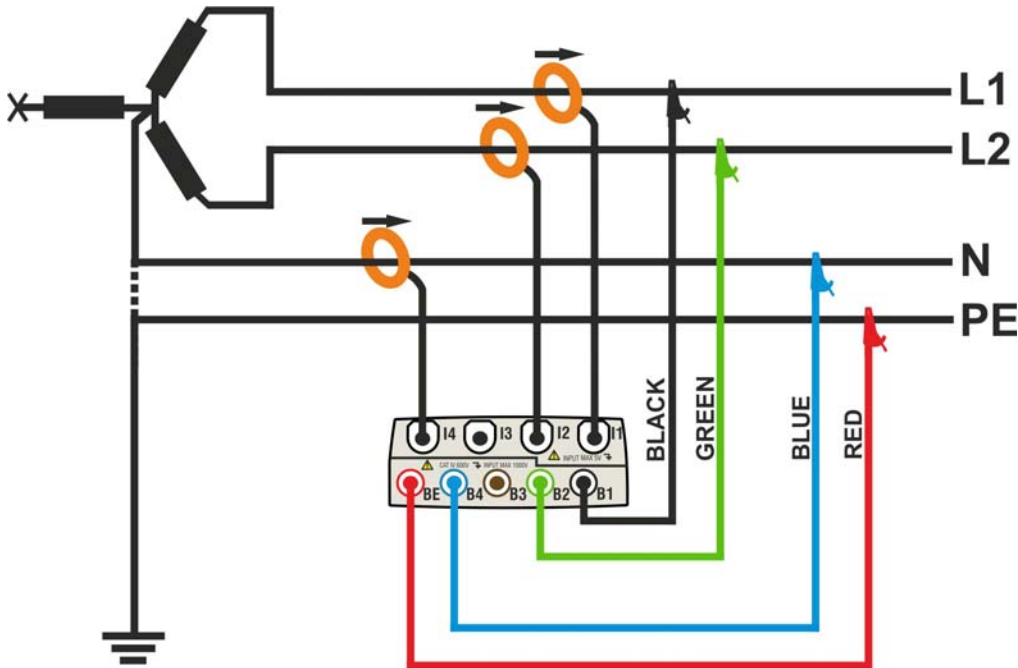

Fig. 172: Meter connection in a two phase 3-wire 3POY system
2. Connect voltage test leads on Phases L1, L2, N and PE cables considering the colours as shown in Fig. 172
3. Connect the transducer current clamps on Phase L1, L2, N cables as shown in Fig. 172 respecting the clamp's arrow direction indicating the current standard sequence from generator to load. **On Real Time Values' section screens (selecting a 3 wire system preliminarily) always verify the positive value of Active Power and the power factor relative to load which should be normally inductive before starting a recording.** Reverse the clamp by 180 degrees on cables in case of negative readings.